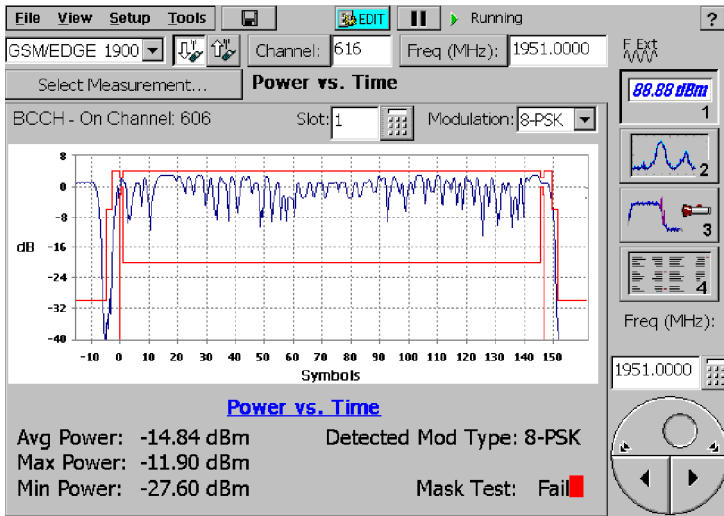

Figure 3-41: GSM/EDGE Power vs. Time mask fail example
- The Mask Test field, which indicates the pass or fail status of the mask test. The mask used for testing is based on the GSM standard and the detected modulation type. Figure 3-41 shows a failed Power vs. Time mask test.